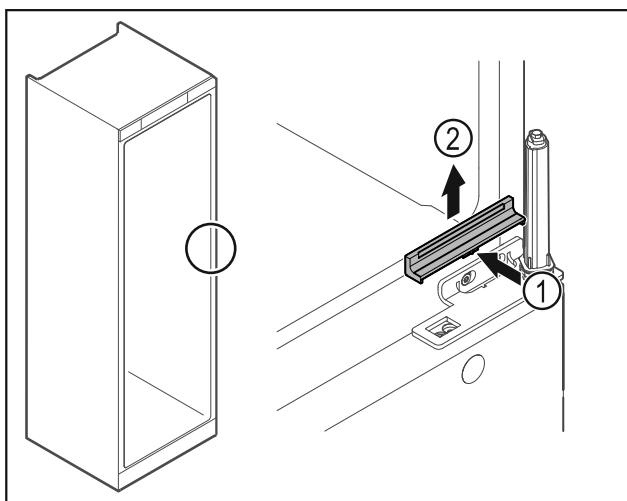

Fig. 21
- Gently press the middle of the cover Fig. 21 (1) and lift it off Fig. 21 (2).